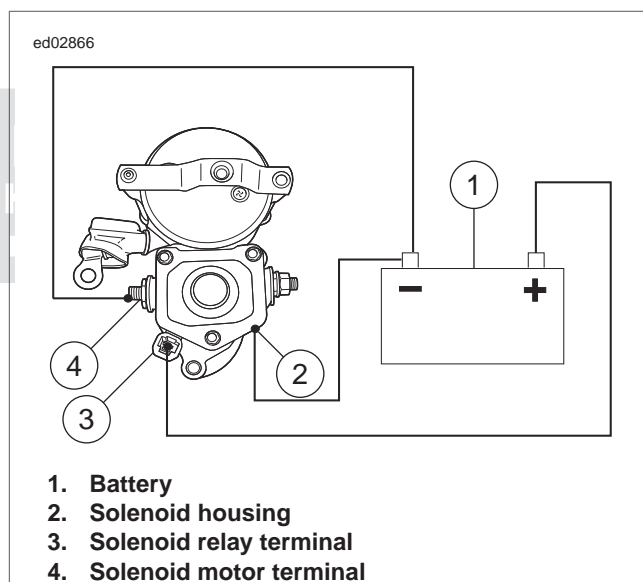

Figure 3-6. Pull-In Test
Do not disassemble solenoid. Before testing, disconnect field wire from motor terminal as shown in Figure 3-6.
- See Figure 3-6. Using a 12 volt battery, connect three separate test leads as follows: